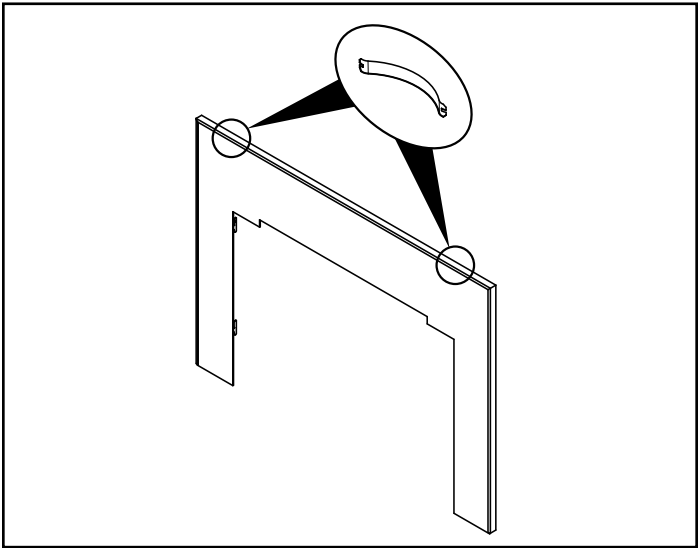

Figure 20.4
4. Install two steel springs at the top on each side and between the flat surround and the assembled trim kit as shown in **Figure 20.4**